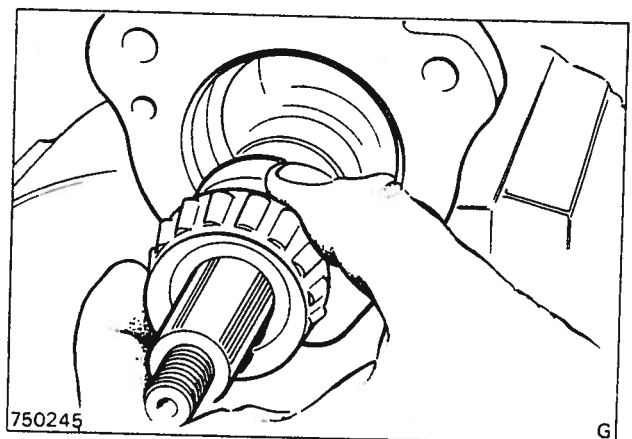

Fig. 55 Refitting the camshaft
10. Refit the camshaft together with the bearing end plate and fit the retaining bolts, Fig. 55. Measure the camshaft end-float using a dial gauge, Fig. 56. This should be within the limits 0,03 to 0,13 mm (0,001 to 0,005 in). If the end-float exceeds these specifications, the camshaft must be removed and shims inserted as required between the spacer ring and ball bearing inner race.